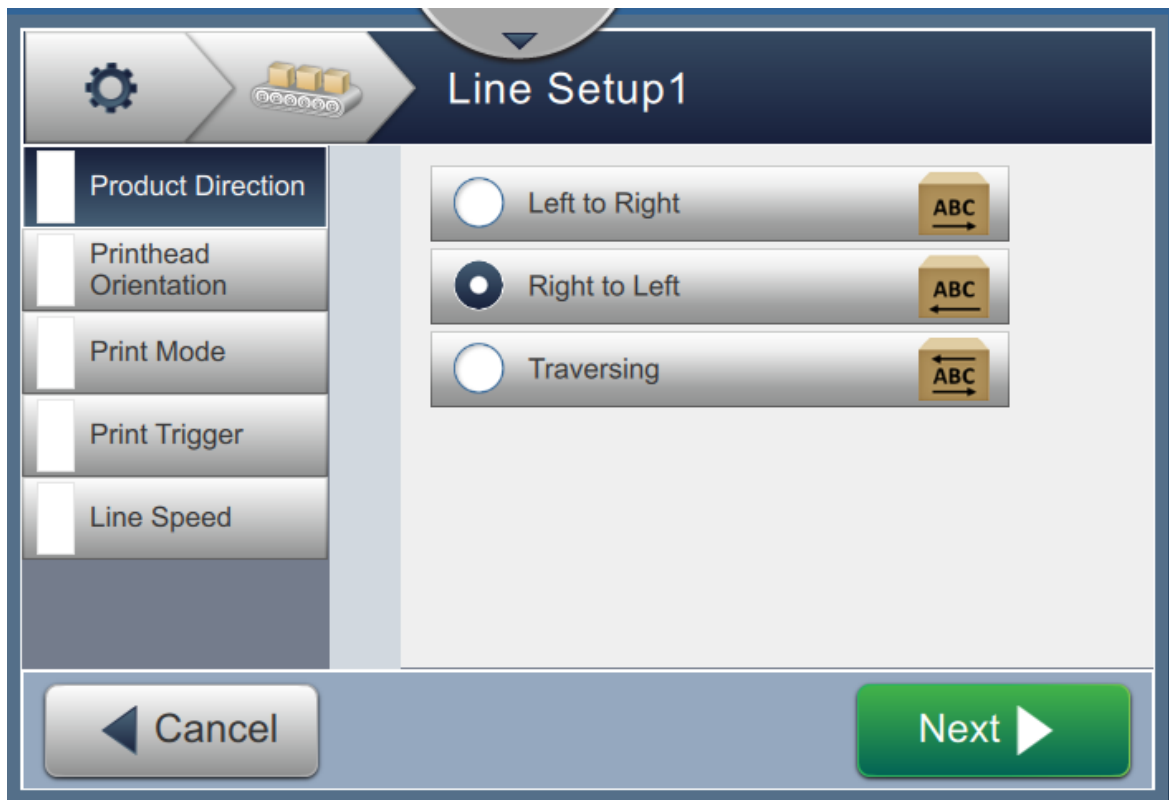

Figure 6-27: Line Setup Settings
4. To configure the Line Setup, follow the steps to progress through each setting, selecting the required option as shown in Figure 6-27.
1. Touch the option *Product Direction* on the line setup setting screen as shown in Figure 6-27.